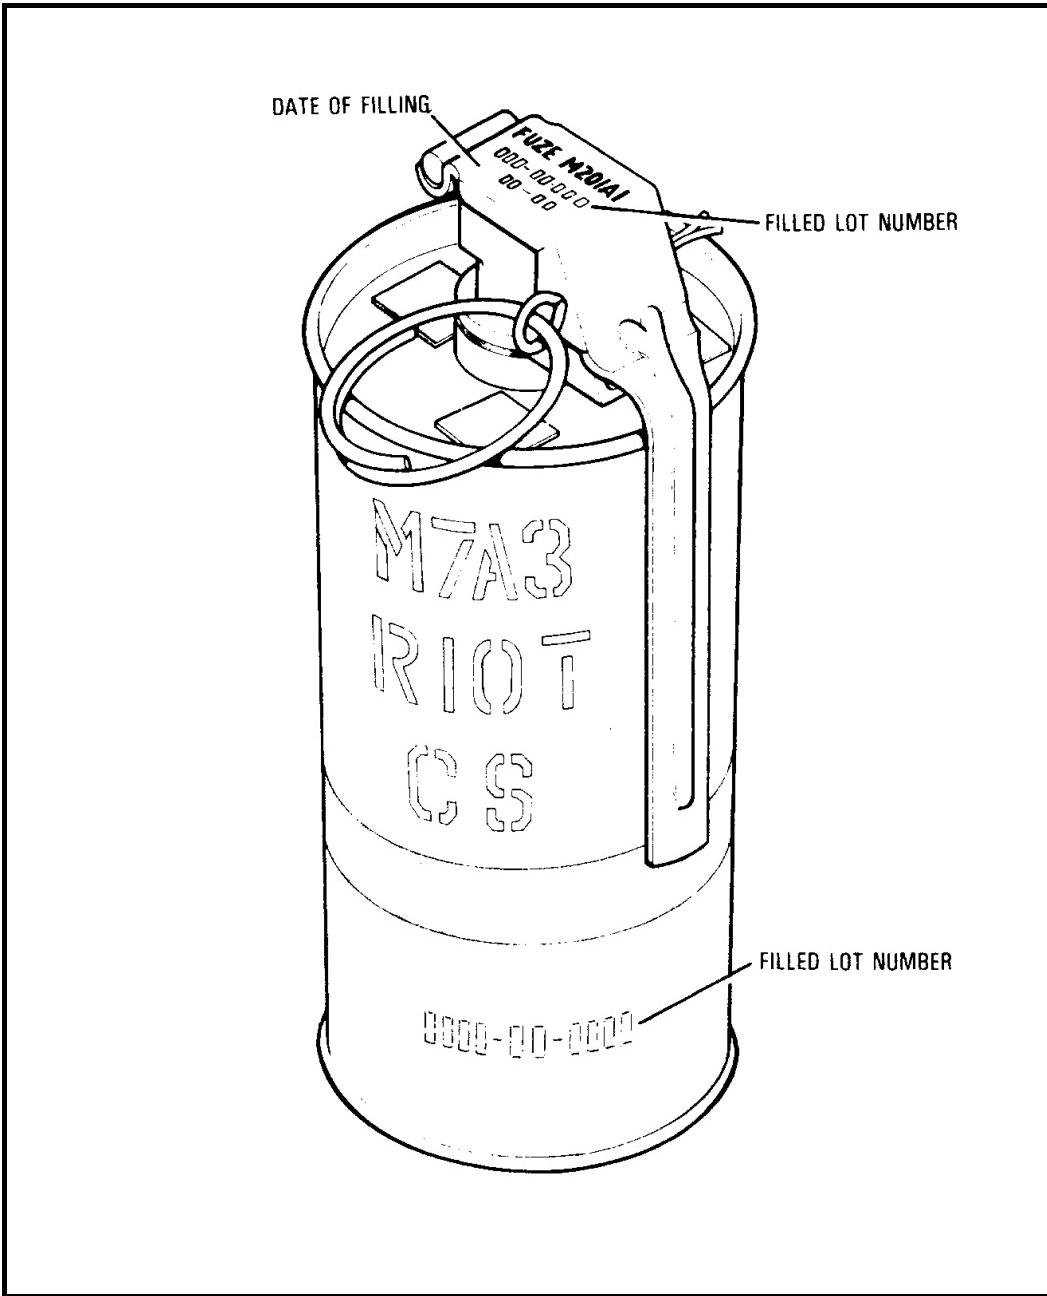

Figure 2-27 CS M7A2/7A3 Grenade
1. The grenade has a tin-plated body in a cylindrical shape. A M201A1 fuze assembly consisting of a striker and spring, safety lever., and safety pin is screwed into the top of the body. These are four emission holes, three on the cap plate and one on the bottom plate. The grenade is filled with CS in pellet form. See Figure 2-27 and Chap 1, Annex C.